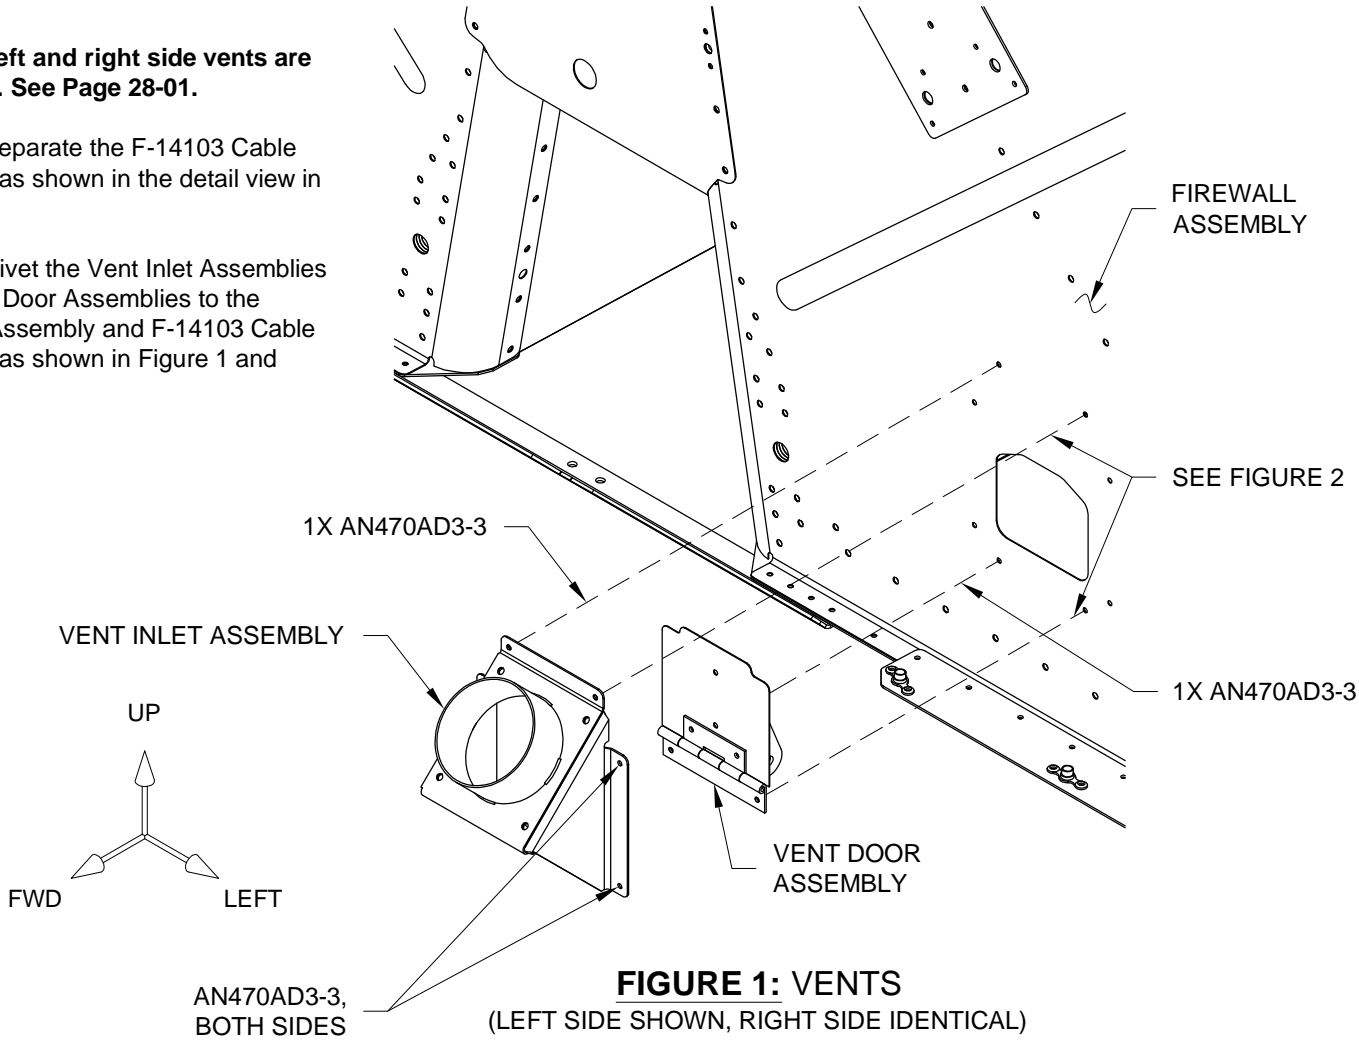
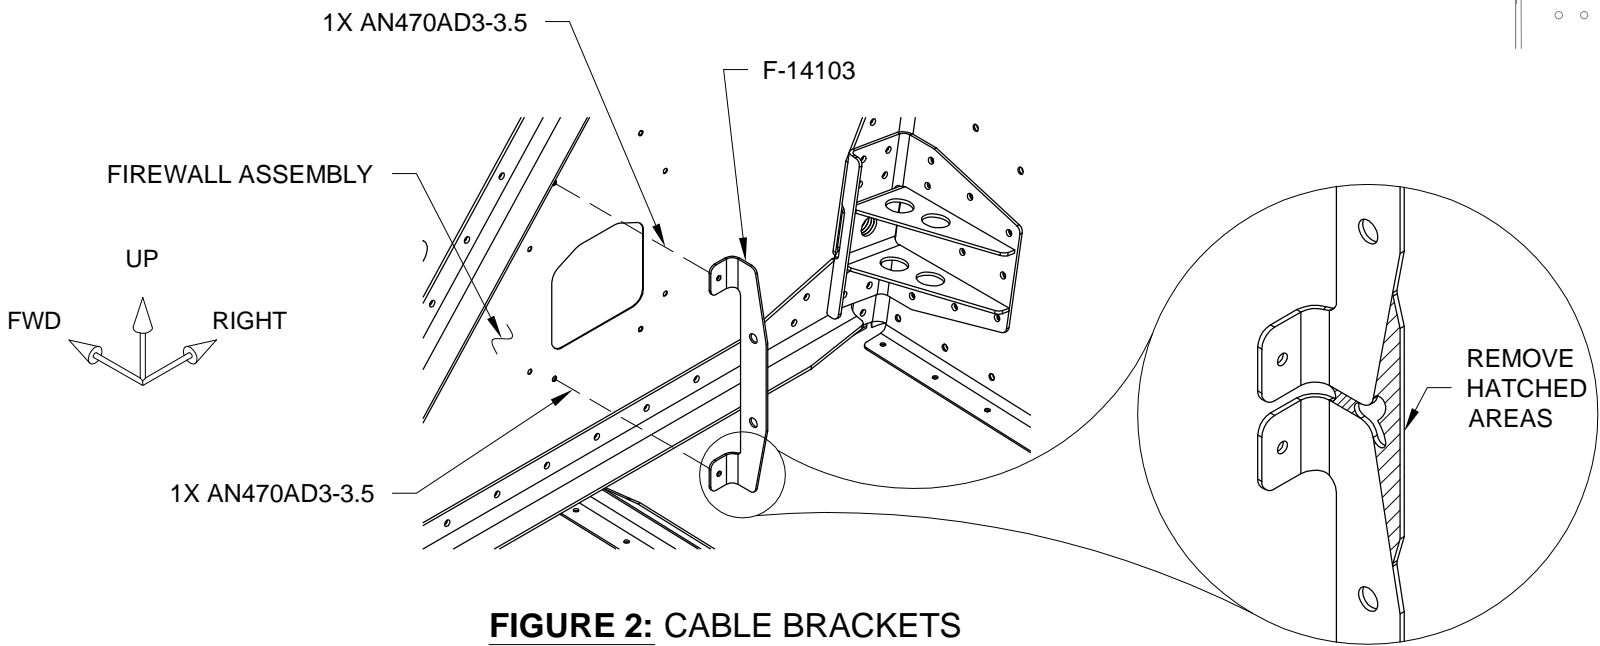

FIGURE 1: VENTS
FIGURE 2: CABLE BRACKETS
Step 1: Separate the F-14103 Cable Brackets as shown in the detail view in Figure 2.
Step 2: Rivet the Vent Inlet Assemblies and Vent Door Assemblies to the Firewall Assembly and F-14103 Cable Brackets as shown in Figure 1 and Figure 2.